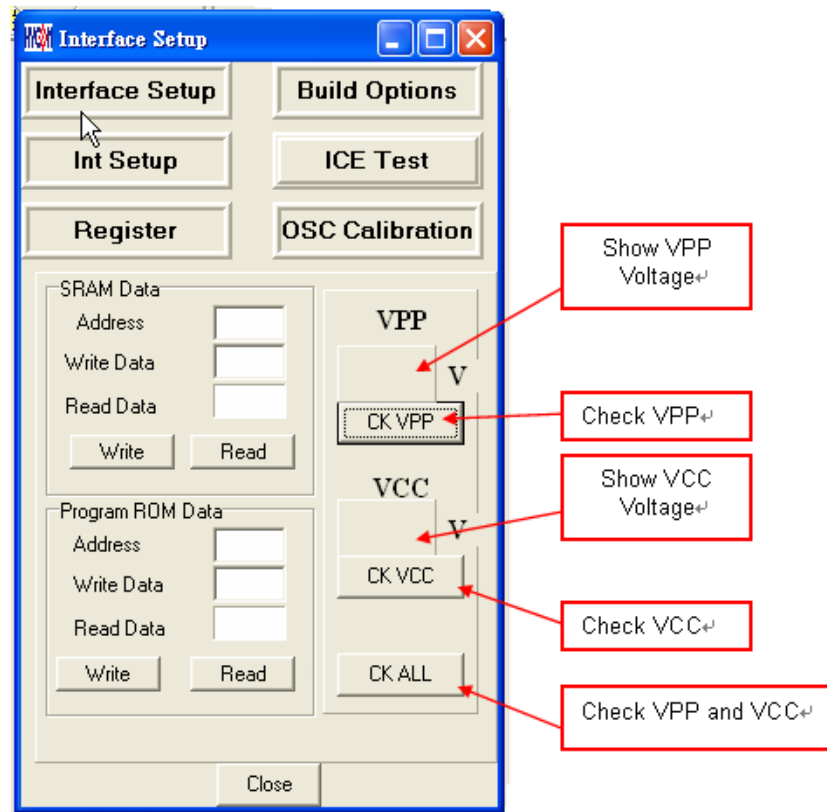

Figure 69
- When command is MVFF (not Macro), first argument value will appear if the cursor points to the first argument. If the cursor points to the second argument, argument value will show up as shown in Figure 69.